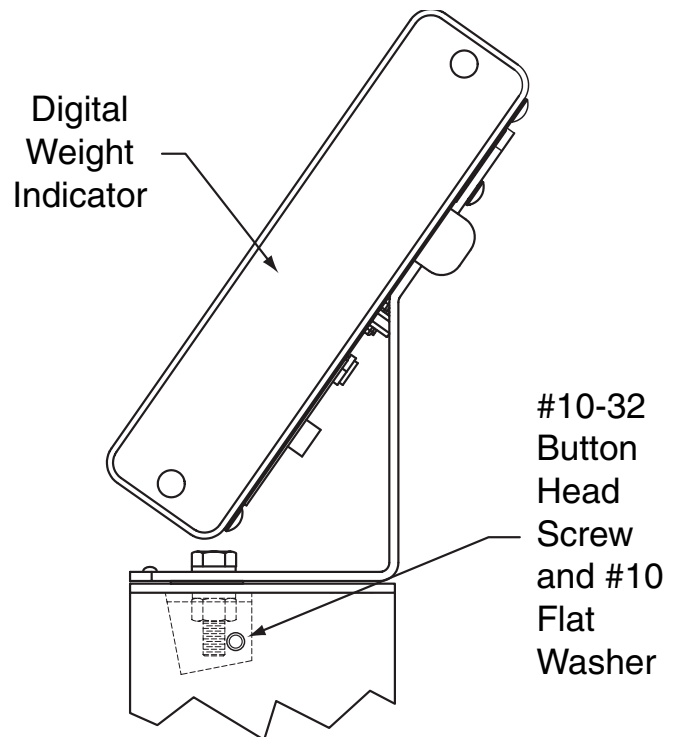

Figure No. 4
11. Attach digital indicator and mounting bracket to column with 2 (#10-32) button head screws and lock washers. See figure no. 4.
12. To attach handrail (D), remove 2 (3/8-16) screws from top of weighbridge side. Set handrail on weighbridge side, align holes, reinstall 2 (3/8-16) screws and tighten.